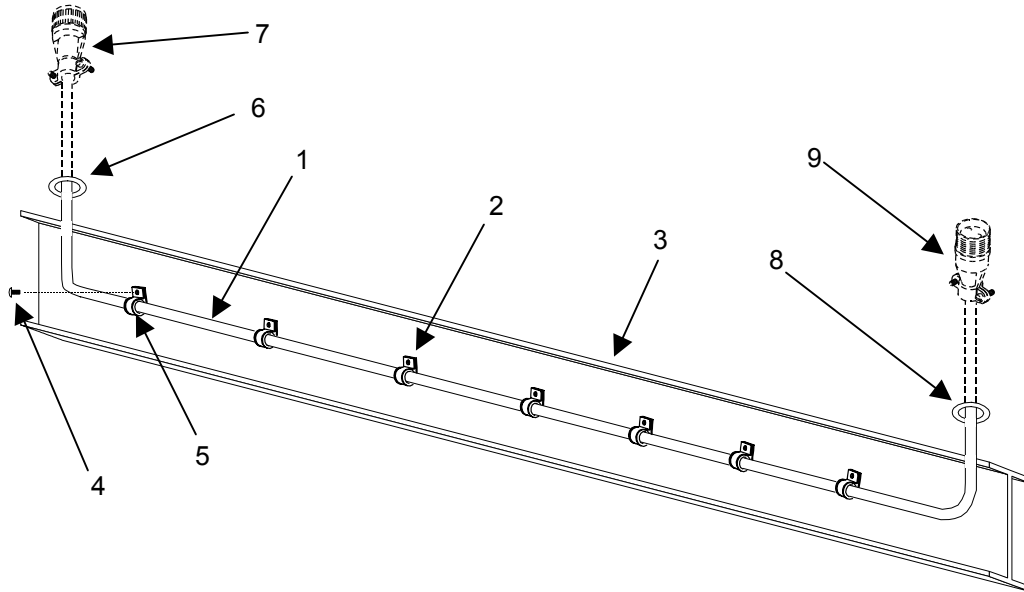

Figure 1. Install the 12-ft MKT Crossway Cable
2. Locate the support beam (**figure 1, item 3**) on which the cable clamps (**figure 1, item 2**) are mounted.
3. Distribute the Crossway Cable (**figure 1, item 1**) along the ground under the trailer support beam (**figure 1, item 3**) so that an equal amount of cable is available to pass up through the trailer floor under the cooling cabinet as well as under the left side between the cabinet and griddle.
5. Once the cable has been distributed to allow a sufficient amount to pass up through the floor of the trailer, move to the far left end of the support beam and remove the screw (**figure 1, item 4**) that secures the first cable clamp (**figure 1, item 5**).
6. Place the cable in position on the support beam (**figure 1, item 3**) and reinstall the clamp.
8. While under the cooling cabinet area on the right side of the trailer, remove the rubber grommet (**figure 1, item 6**) mounted in the trailer floor.
9. Cut the grommet and install over the Crossway Cable (**figure 1, item 1**).
10. Push the connector (**figure 1, item 7**) of the Crossway Cable up through the hole in the floor of the trailer and reinstall the rubber grommet (**figure 1, item 6**).
11. Move to the left end of the support beam (**figure 1, item 3**) and remove the second rubber grommet (**figure 1, item 8**). Cut as before and wrap around the cable.
12. Pass the connector end (**figure 1, item 9**) of the cable up through the floor of the trailer and reinstall the grommet in the floor of the trailer.
1. Remove the rubber grommets (**figure 1, item 1**) at each end of the cable (**figure 1, item 2**) and pull the cable through the trailer floor at both ends. Set the rubber grommets aside.
2. Remove the screws (**figure 1, item 3**) retaining the cable clamps (**figure 1, item 4**) to the trailer support beam (**figure 1, item 5**), and remove the cable clamps.
3. Remove the damaged cable (**figure 1, item 2**).
4. Install the replacement cable (**figure 1, item 2**) as described in WP 0021 00, "Install the 12-ft Crossway Cable".